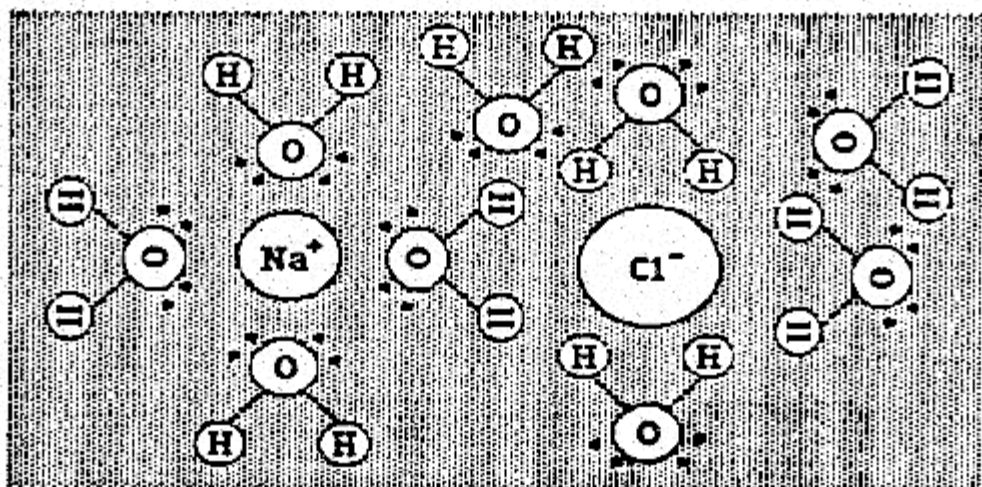

Figure 2: Na^+ and Cl^- Hydration Sphere
water molecules. Since water molecules are polar (i.e., they have concentrations of "charge" on different parts of the molecule), they surround the individual sodium and chloride ions in such a way that they can still move through the solution, but do not recombine (this statement pertains to an unsaturated solution, which we shall discuss in greater depth in a future lesson.) Figure 2 shows how this might look if we could observe ions and molecules. This interaction between water molecules and ions is known as hydration. In this process, we see the "breaking" of ionic forces in the crystal, the breaking of hydrogen bonds in water and the formation of ion-dipole interactions in the solution.
4. How does CaCl_2 exist in solution? (Hint: Figure 2).